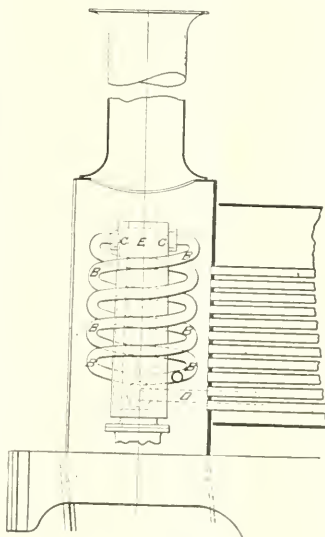

FIG. 2.—J. E. McCONNELL, 1851.
J. E. McConnell, a prominent English motive power officer, made a number of improvements in locomotive design, among which was a feed-water heater in which it was proposed to utilize the heat of the gases passing through the smoke box, and the steam passing through the high exhaust pipes, which were standard in English locomotives of his time. This appliance is shown in his British Patent, 1851, and will be understood by reference to Fig. 2, which is reproduced from this patent.